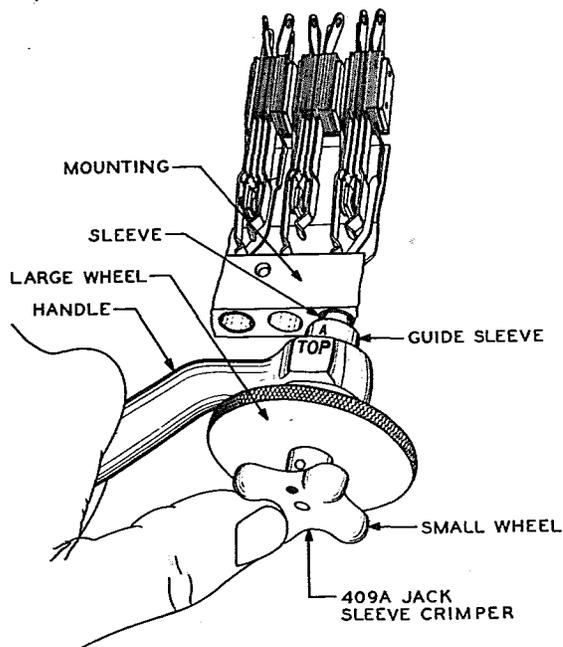

FIG. 10 - METHOD OF CRIMPING SLEEVE TERMINAL WITH 409A JACK SLEEVE CRIMPER
3.19 Hold the crimper by the handle in the left hand so that the marking "top" is up. If the sleeve to be crimped is of the 141 or similar type jack in a 1/2" thick mounting, set the guide sleeve of the 409A jack sleeve crimper in the position so that the letter "A" is on top as shown in Fig. 10. If the sleeve to be crimped is of the 141 or similar type jack in a 11/16" thick mounting, set the guide sleeve in the position so that the letter "C" is on top. If the sleeve to be crimped is of the 49 type jacks, set the guide sleeve in the position so that the letter "B" is on top. The adjustment of the crimper is controlled by loosening the clamping screw on the handle, sliding the guiding sleeve forward, turning it to the desired position, sliding it backward, and tightening the clamping screw.
turning out of this position with the thumb of the left hand as shown in Fig. 10.
3.21 Insert the crimper in the replaced sleeve pressing it firmly against the face of the mounting as shown in Fig. 10. Turn the small wheel 180° bringing the dot opposite its former position. While holding the small wheel firmly with the thumb of the left hand to prevent its turning, turn the large knurled edge wheel with the right hand in a clockwise direction as far as possible without excessive forcing. This crimps the sleeve terminal at its junction with the sleeve. After this crimping operation, turn the large wheel 1 or 2 turns in a counter-clockwise direction and then turn the small wheel through 180° bringing it back to its former position. Withdraw the crimper from the mounting.